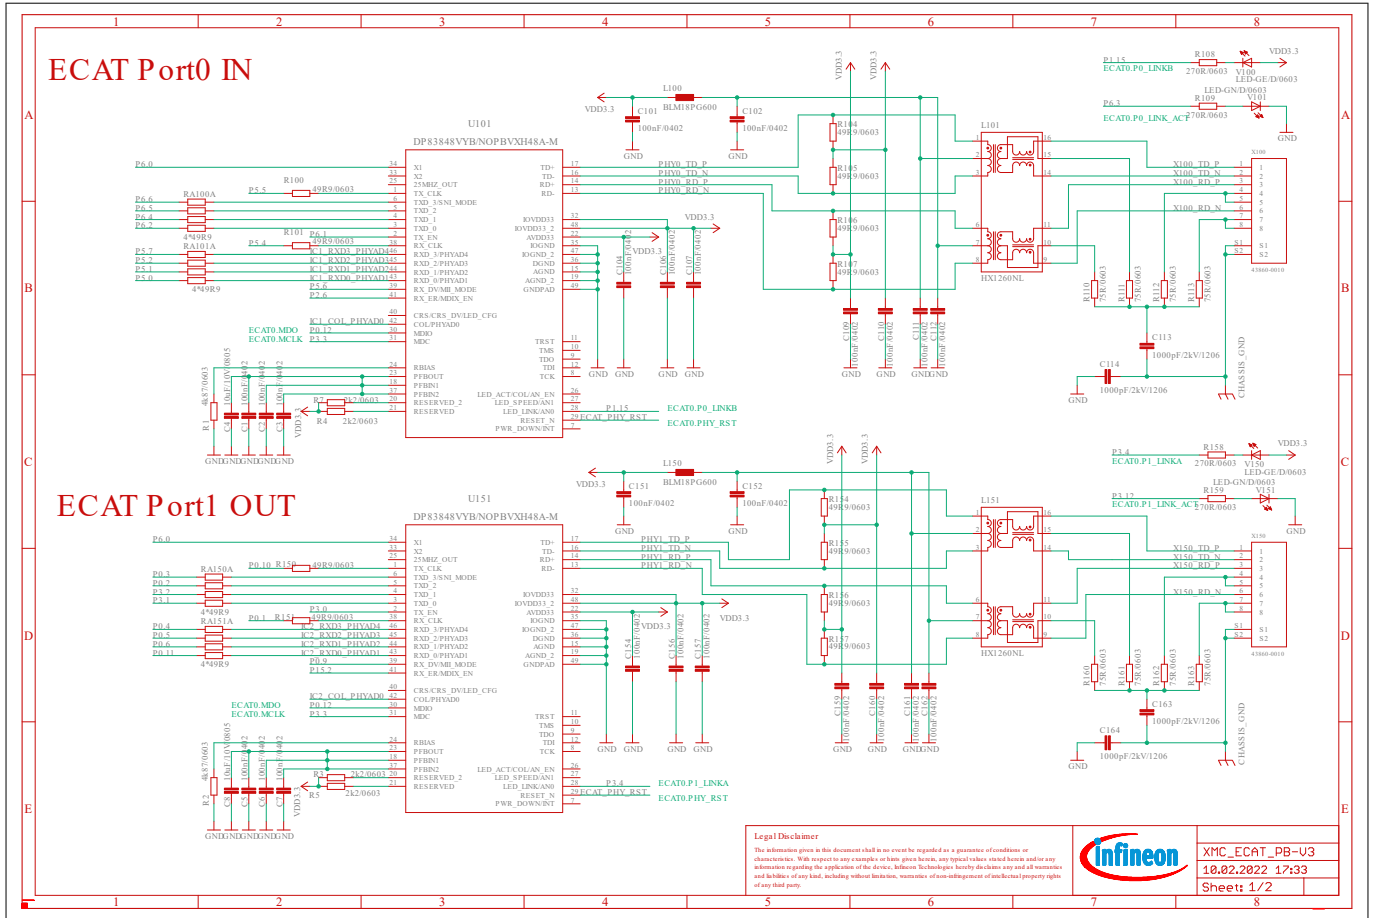

Figure 14 XMC™ EtherCAT Phy Board Schematic: Input and Output Phy (see Revision 1.3)
- Figure 14: XMC™ EtherCAT Phy Board Schematic: Input and Output Phy (see Revision 1.3)